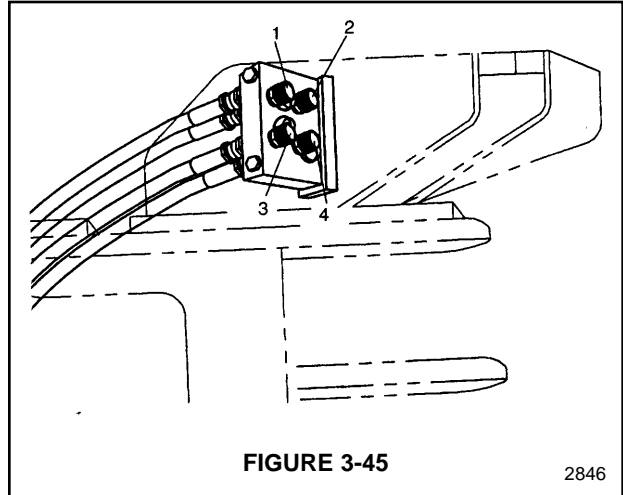

FIGURE 3-45
1. Attach gauge to Port 1. See Figure 3-45.
1. Attach gauge to Port 2. See Figure 3-45.
1. Attach gauge to Port 3. See Figure 3-45.
1. Attach gauge to Port 4. See Figure 3-45.